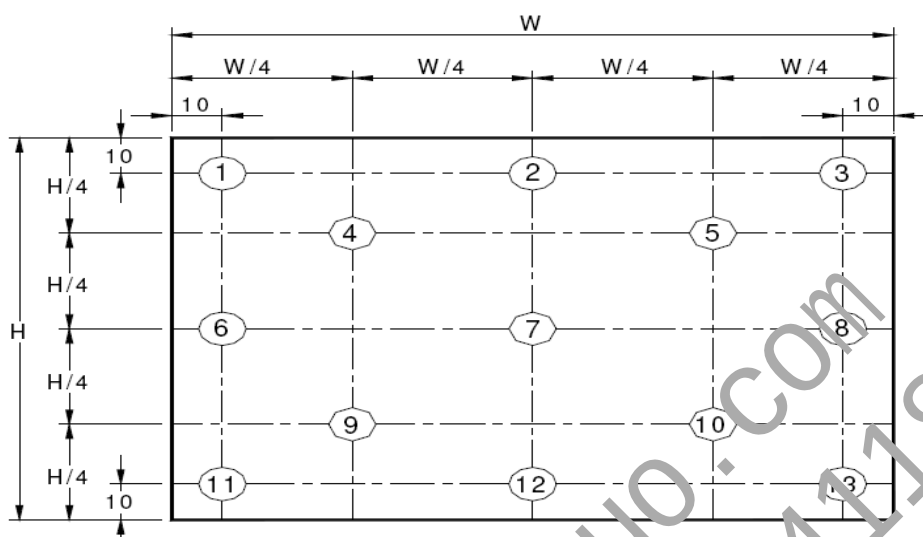

Figure 9. Uniformity Measurement Locations (13 points)
4. The White luminance uniformity on LCD surface is then expressed as : $\Delta Y = \text{Minimum Luminance of 5(or 13) points} / \text{Maximum Luminance of 5(or 13) points.}$ (see Figure 8 and Figure 9).
The White luminance uniformity on LCD surface is then expressed as : $\Delta Y5$ = Minimum Luminance of five points / Maximum Luminance of five points (see Figure 8), $\Delta Y13$ = Minimum Luminance of 13 points / Maximum Luminance of 13 points (see Figure 9).